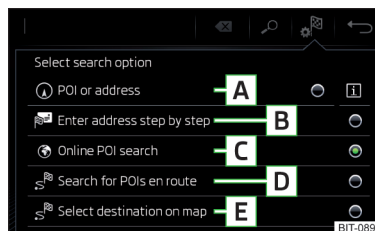

Fig. 210
**Functional surfaces** » Fig. 210
- › Then tap the function surface of one of the menu items for the destination search **A**, **C** or **D** » Fig. 210 on page 179.
- Then tap the function surface  →  » Fig. 210 on page 179.